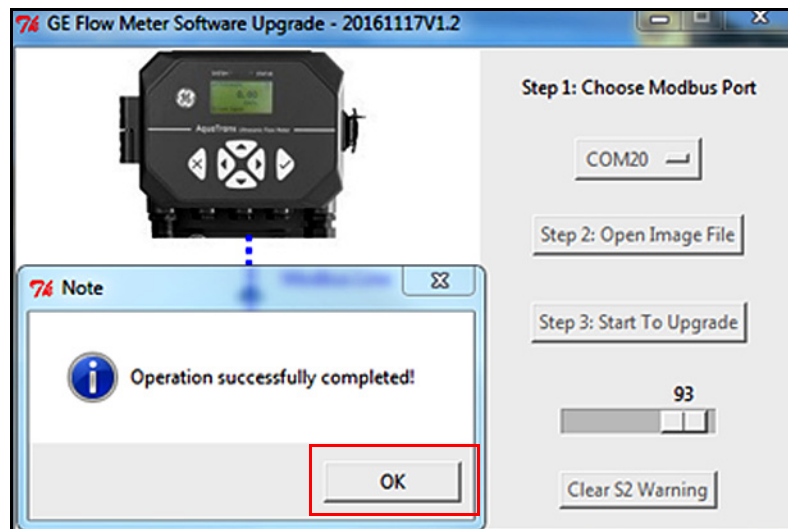

Figure 40: S2 Warning Successfully Cleared
3. After about 15 seconds, a screen similar to *Figure 40* below is displayed. Click OK and then reboot the AT600 to confirm that the S2 error has been cleared.